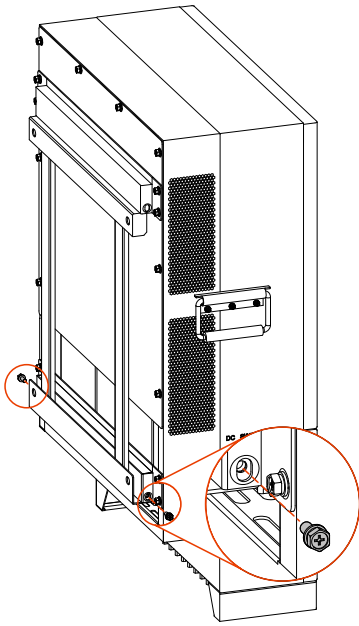

Figure3-8 Fasten the inverter
- Step 6 As shown in Figure3-8, fasten the inverter to the installation holder in the two sides of the inverter by equipped bolts M6*16.